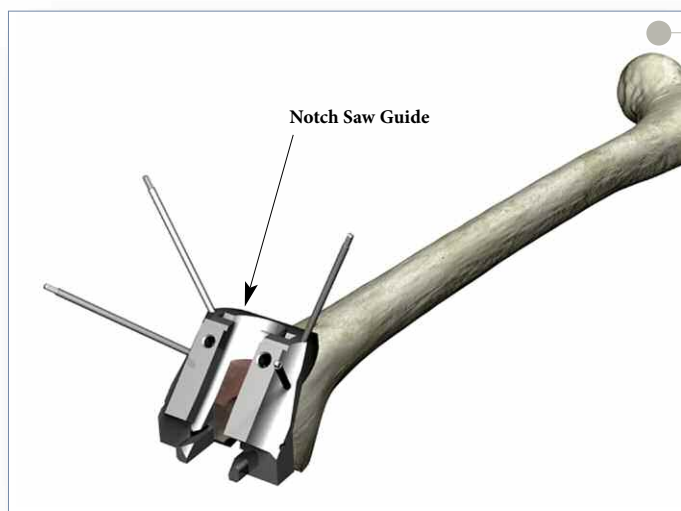

Figure 37
- Guide the pegs of the appropriately sized Notch Saw Guide into the anterior holes on the Notch Block (Figure 37).